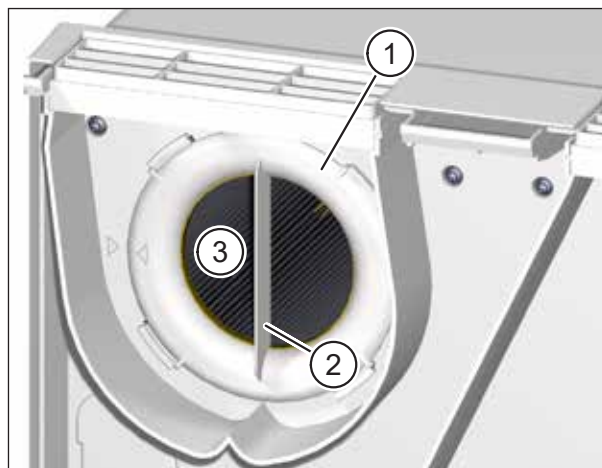

Fig. 20: Removing the extract air filter
- ▶ Turn the filter ring (item 1 in Fig. 20) using the hand grip (item 2 in Fig. 20) anti-clockwise until the filter ring is released from the retainers.
- ▶ Pull the filter ring together with the extract air filter (item 3 in Fig. 20) out of the ventilation unit.
- ▶ Check the position of the filter ring. The hand grip must be vertical and the arrow on the filter ring must line up with the arrow for the locking position (see Fig. 20 on page 37).